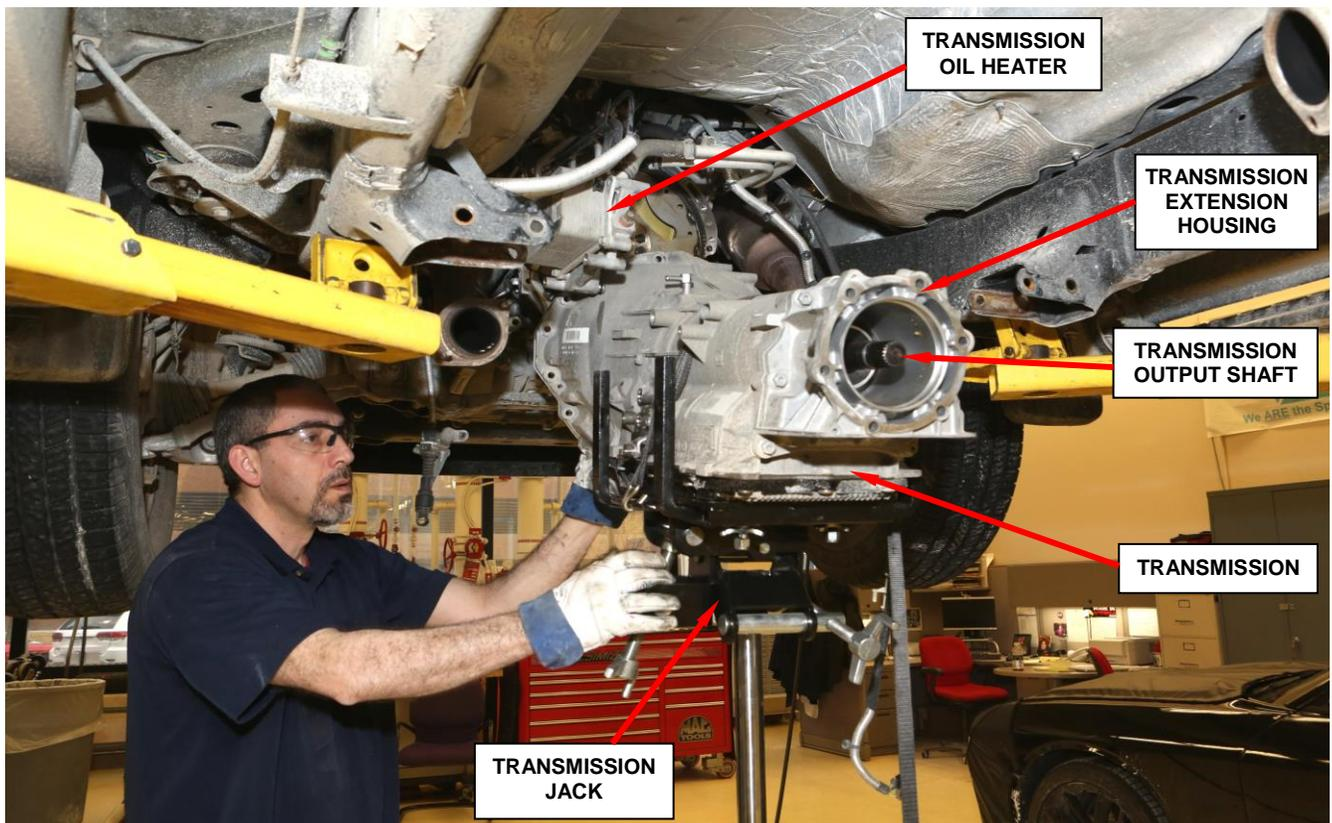

Figure 7 – Lower/Raise Transmission
24. Carefully lower the transmission assembly from the vehicle (Figure 7).
29. Raise the transmission into position (Figure 7).